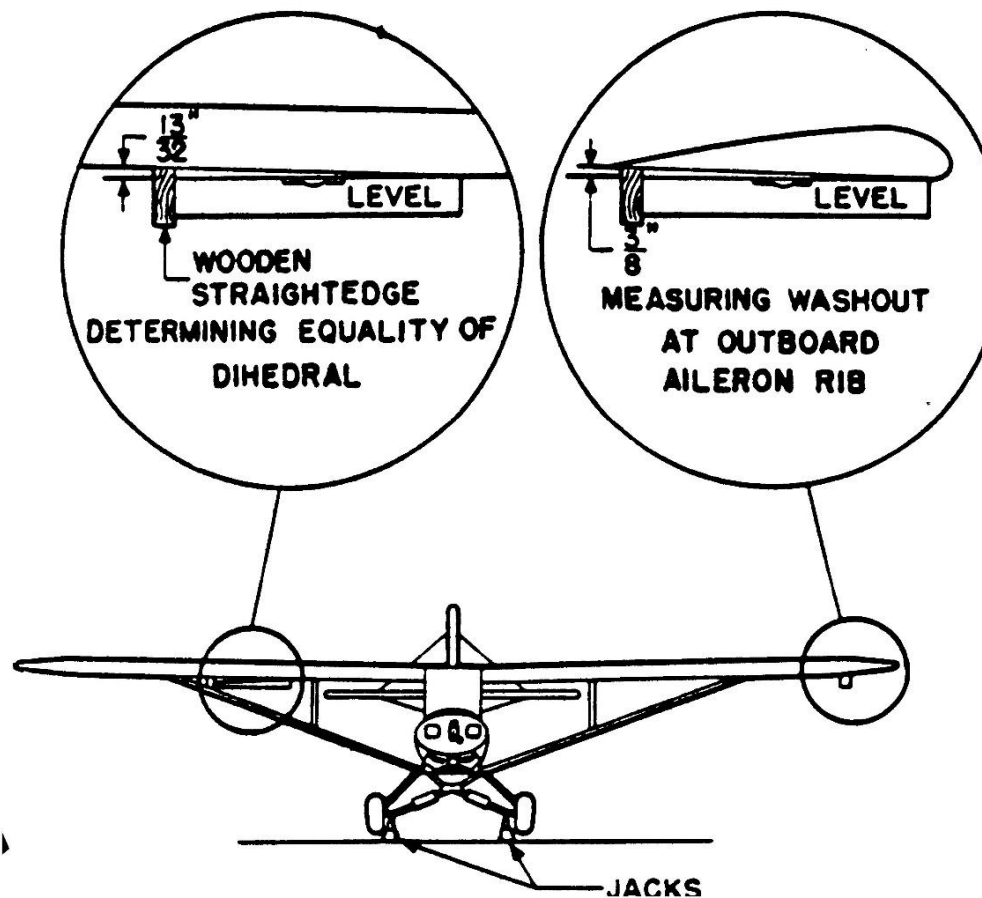

Figure 2. Rigging Diagram
3. Washout. Check the washout of each wing by holding a wooden straightedge on the end of a 30" level so that one end of the straightedge protrudes 3/8" above the level (See Figure 2, Rigging Diagram). Place the combination along the underside of the full rib next to the outer end of the aileron. The level end with straightedge spacer should be to the rear of the rib while the other end of the level should be placed under the front spar. Correct washout exists when the bubble is centered.